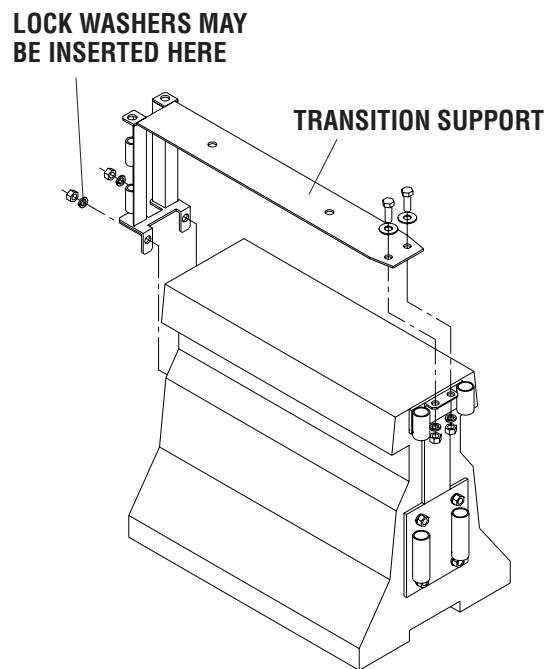

Figure 11
Step 3: Install Euro-NEAT QMB TRANSITION SUPPORT (see Figure 11)
Next, insert the 900mm [35"] long by 25 mm [1"] diameter pins into the holes on the outside of the Backup to fix the Transition Panels in place. Align deflectors and tighten all allen bolts. If there is interference between the Transition Panels and the Backup, remove the Transition Panels and the Transition Support. Then add additional 7/8" lockwashers under the Transition Support as described in step 3 and shown in Fig. 11. Additional 7/8" washers are included with the Euro-NEAT system. Repeat the assembly described in steps 3, 4, and 5 until an adequate fit is obtained.